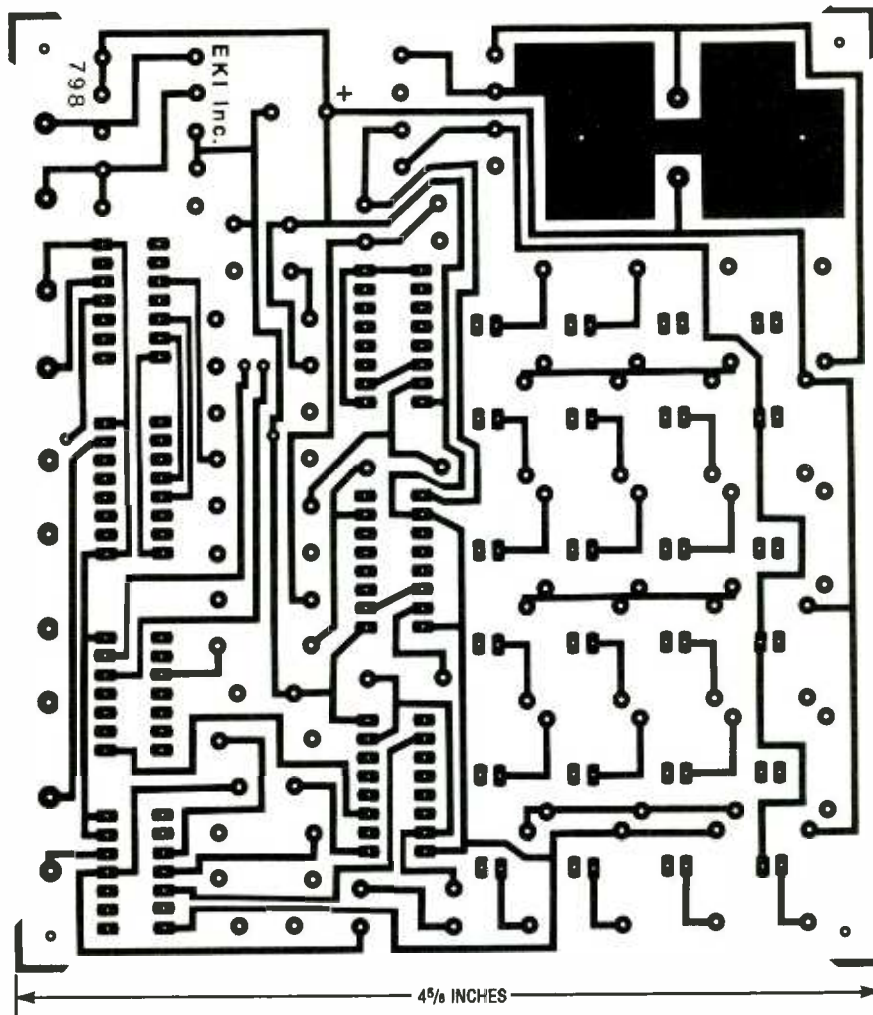

Fig. 3. Here's the foil side of the Binary Clock's double-sided printed-circuit board.
**Construction.** The wire clip is everything. Take your time and get it right. Start, as shown in Fig. 3, by straightening a large paper clip. Figure 3A shows the
Fig. 3. Follow this clip-bending diagram to form the battery holder for the Electronic Fish Lure. Starting with a straightened large paper clip, make a bend at point A (A), follow by the bend at point B (B), and then the bend at point D (C). Then form a loop at point C and another at point E (D).